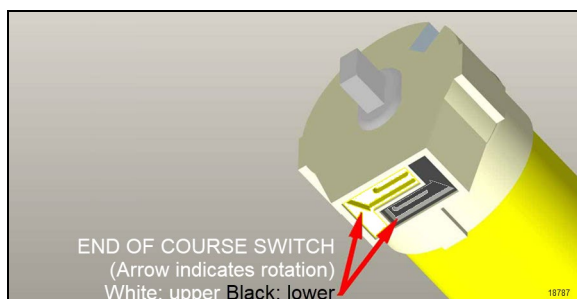

FIGURE 21: END OF COURSE SETTING SWITCHES
7. When satisfied with the position, depress the end of course button on the sunshade. With a screwdriver. Release when you hear a click (Figure 21)